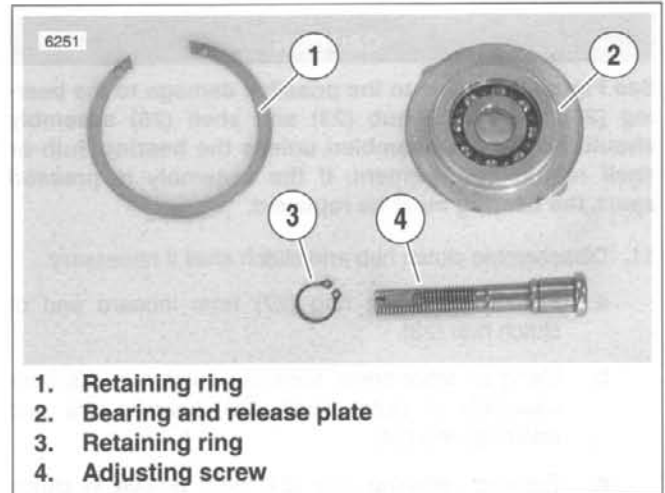
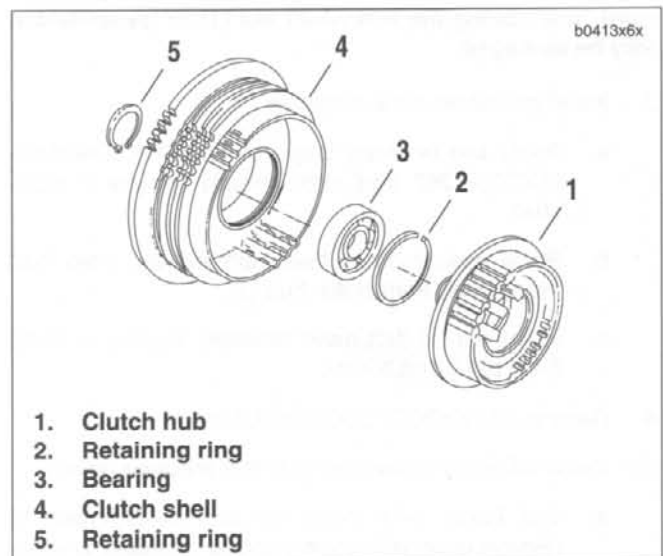

Figure 6-17. Adjusting Screw Assembly
Figure 6-22. Clutch Hub and Shell Assembly
3. See Figure 6-17. Remove adjusting screw assembly.
- a. Remove large retaining ring (1).
- b. See Figure 6-17. Secure the adjusting screw assembly with large retaining ring (1).
- a. Place a wrench on the clutch spring forcing screw (1) flats to prevent the forcing screw from turning.
- b. Turn the compressing tool handle (5) counterclockwise until the handle spins off.
- c. Remove washer (4), bearing (3) and bridge (2).
- d. Remove clutch spring forcing screw (1) from clutch adjusting screw.
- e. Remove spring seat (9) and diaphragm spring (6) from pressure plate (7).
10. See Figure 6-17. Remove and disassemble adjusting screw assembly.
- c. If necessary, disassemble adjusting screw assembly. Remove and discard small retaining ring (3) and then separate the adjusting screw (4) from the bearing and release plate (2). Remove bearing from release plate.
- See Figure 6-22. Assemble clutch hub and shell if necessary.
- Press **new** bearing (3) in clutch shell (4). Secure bearing with a **new** retaining ring (2).
- Press inboard end of clutch hub (1) into shell bearing (3). Secure with **new** retaining ring (5) on end of hub.
- See Figure 6-17. Place bearing inside release plate. Insert adjusting screw (4) through bearing and release plate (2). Secure with **new** retaining ring (3).
- b. See Figure 6-17. Secure the adjusting screw assembly with retaining ring.